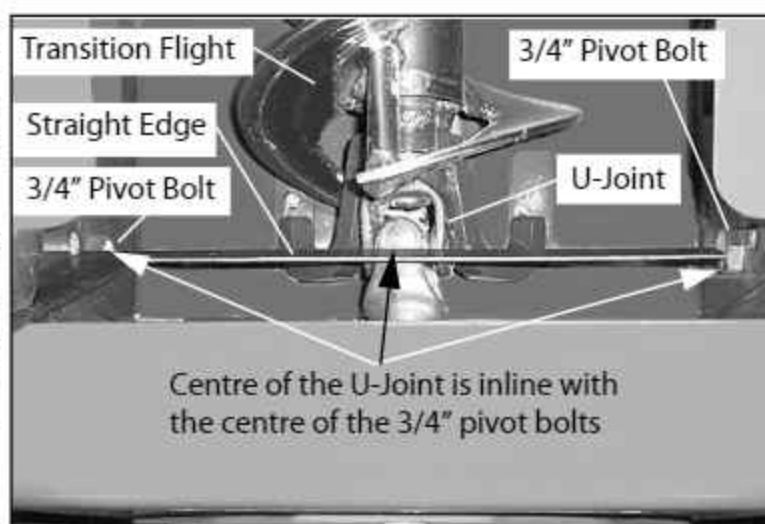

FIG. 3-35. Aligning the U-Joint and Pivot Bolts
7. Insert a straight edge through the access hole in the top of the transition. See Fig. 3-35. Place the straight edge over the centre of the two 3/4" Pivot bolts and adjust the position of the u-joint so the centre of the joint is inline with the centre of the pivot bolts.